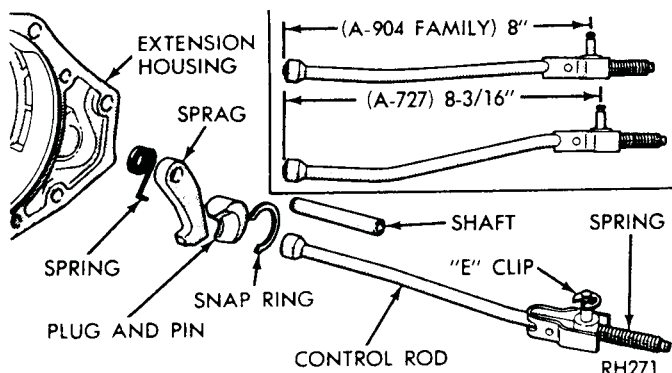

Fig. 12—Parking Lock Components
- (1) Remove extension housing as previously described.
- (2) Slide shaft out of extension housing to remove the parking sprag and spring (Fig. 12). Remove snap ring and slide the reaction plug and pin assembly out of the housing.
- (3) To replace the parking lock control rod, refer to "Valve Body—Removal and Installation."
- (1) Install reaction plug and pin assembly in the housing and secure with snap ring (Fig. 12).
- (2) Position sprag and spring in housing and insert the shaft. Make sure square lug on sprag is toward parking gear, and spring is positioned so it moves sprag away from the gear.
- (3) Install extension housing.